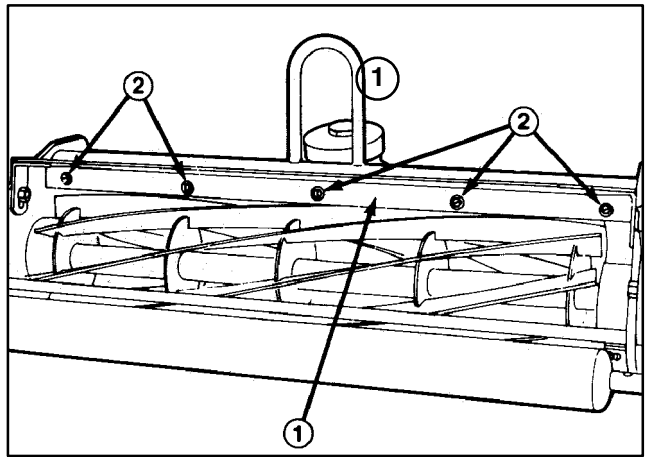

Figure 9
1. Loosen screws securing top bar (Fig. 9). Insert 0.060 inch feeler gauge between top of reel and bar and tighten screws (Fig. 9). Assure bar and reel are equal distance apart across complete reel.